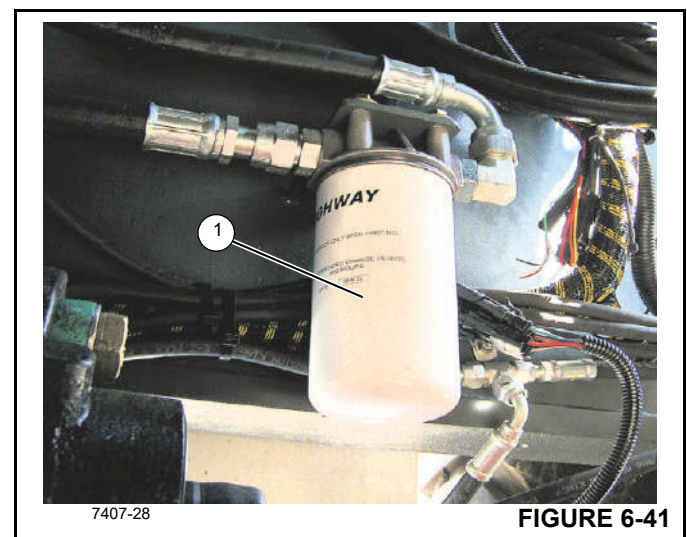

FIGURE 6-41
5. Remove the transmission oil filter (1, Figure 6-41) by unscrewing it from the filter housing. Properly discard the filter.
7. Screw on the transmission filter (1, Figure 6-41) until it touches the filter head. Then, turn the filter another 1/2 to 3/4 of a turn to seat the seal.